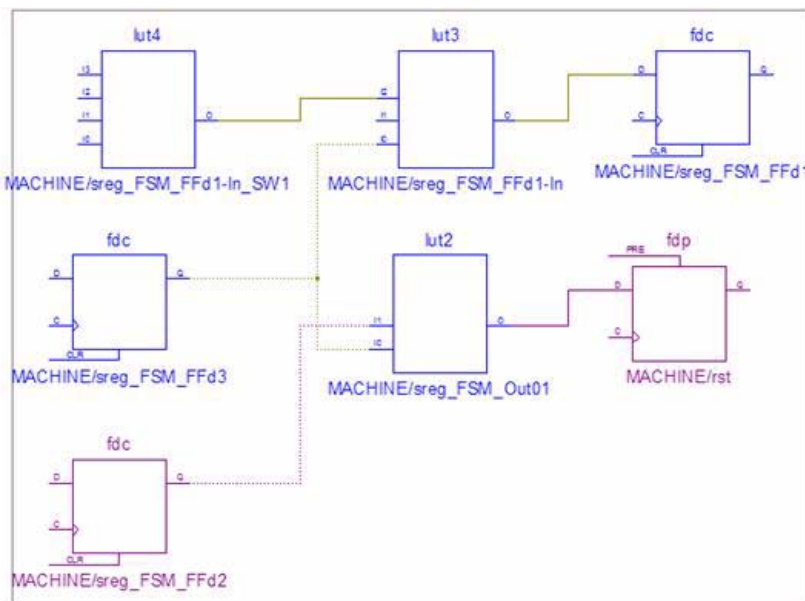

Figure 4-19: **Show All Block Inputs/Outputs**
2. Select the **lut2** primitive and choose **Show All Block Inputs/Outputs** from the right-click context menu. See Figure 4-19.